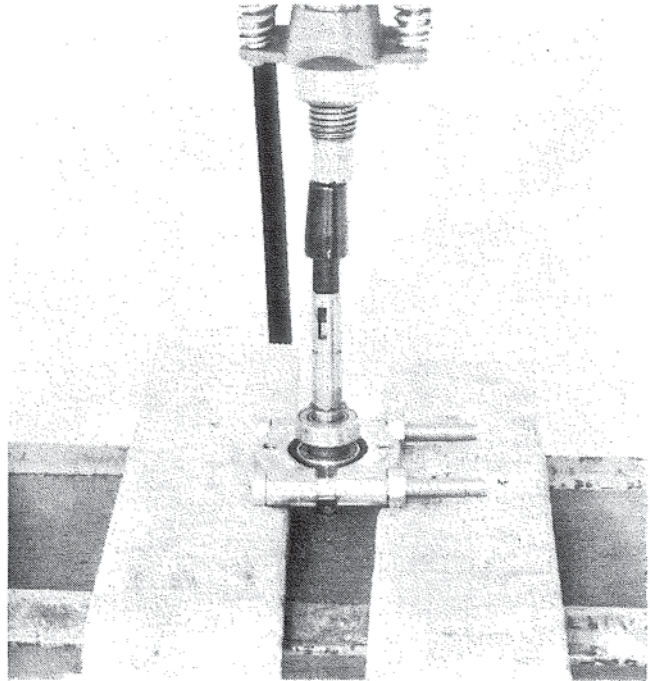

Figure 13. Installing Large Bearing.
3. Press large bearing onto shaft. Figure 13.